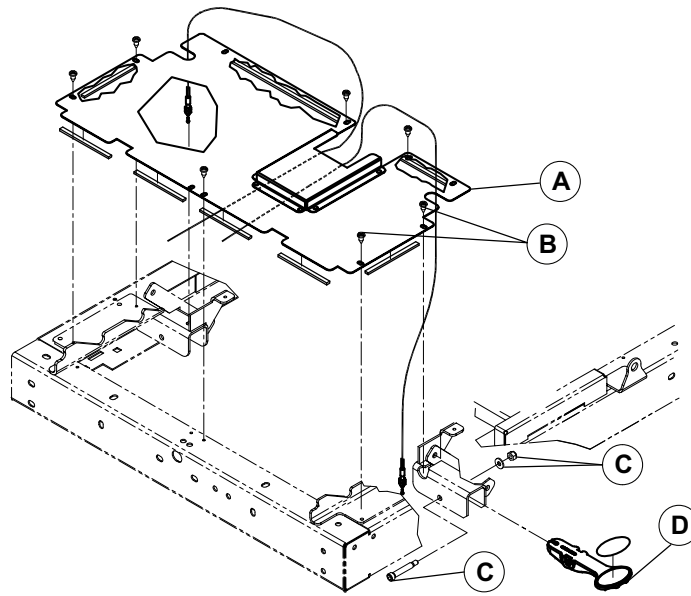

Figure 23 – Head section activation lever
4. Using a #2 Phillips screwdriver, remove the nine screws (B) that secure the protective plate (A) to the litter frame (Figure 23). Save the screws.
5. Using two 7/16" combination wrenches, loosen the two nuts that secure the cable to the activation lever (D) (Figure 23). Remove the cable from the activation lever. Save the cable and nuts.
6. Using a 5/32" Allen wrench and a 7/16" combination wrench, remove the locknut, washer, and shoulder screw (C) that secure the activation lever to the litter frame (Figure 23). Remove and discard the activation lever. Save the locknut, washer, and screw.